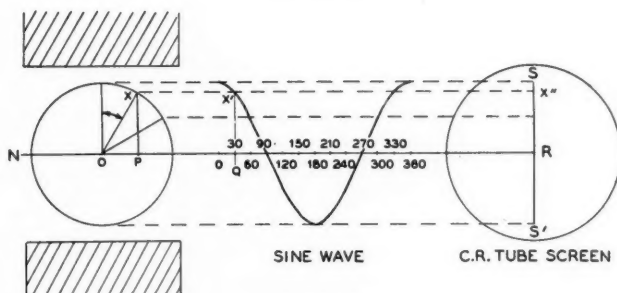

FIGURE 3.
If the radius of a circle (OX) is swung around the circle, as in figure 3, and the length of the line XR plotted against the angle of rotation, in rectangular coördinates (X'Q), a *sine wave* is formed. If the radius is a loop of wire between two magnet pole pieces as drawn, it becomes a simple form of the a.c. generator supplying the house mains. When this voltage is placed on one pair of plates, with the other pair shorted, the cathode ray tube sees the sine wave "edge on" just as would be seen by an eye placed at R, looking toward Q. In short, the pattern is a straight line either along the x or the y axis of figure 1 depending upon the pair of plates on which the a.c. is impressed. The line is traced twice during a complete cycle. As is apparent from figure 3, the line follows the *peak* rather than the average or r.m.s. values of the voltage. The line will be weaker in the center than at the ends because the speed of the dot is greater at the center while it slows down and reverses itself near the ends.